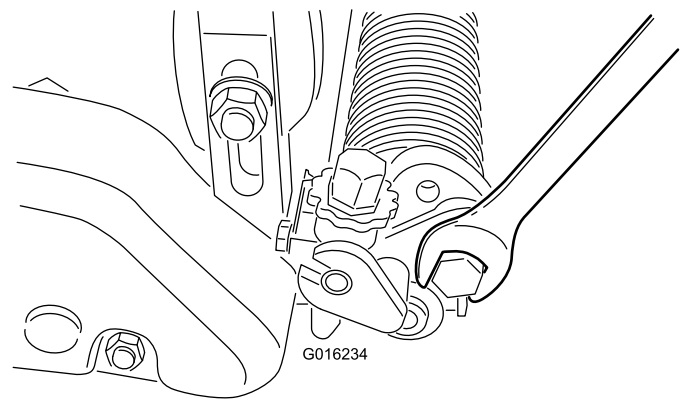

Figure 21
- A. Loosen the bolts on the right and left groomer arms (Figure 21).
- C. Tighten the bolts securing the adjustment (Figure 21).